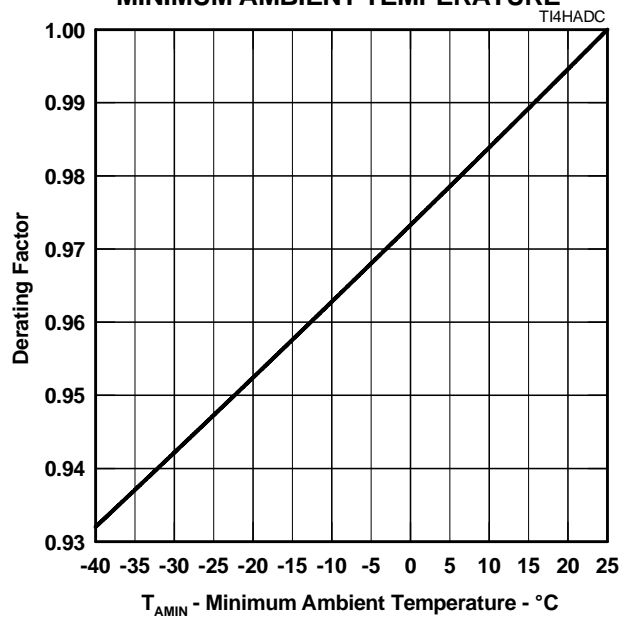

Figure 7.
- NOTES: 1. See Figure 7 for voltage values at intermediate temperatures.